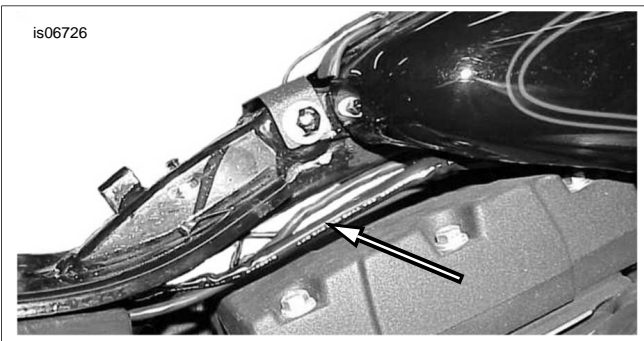

Figure 24. Transmitter Wire Routing to Headlamp (Dyna)
1. See Figure 24. Use cable straps from the kit to fasten the remaining transmitter wires (yellow and white) and conduit to the motorcycle wires leading to the headlamp. Lift the fuel tank as needed to feed the wires under the tank and toward the headlamp.